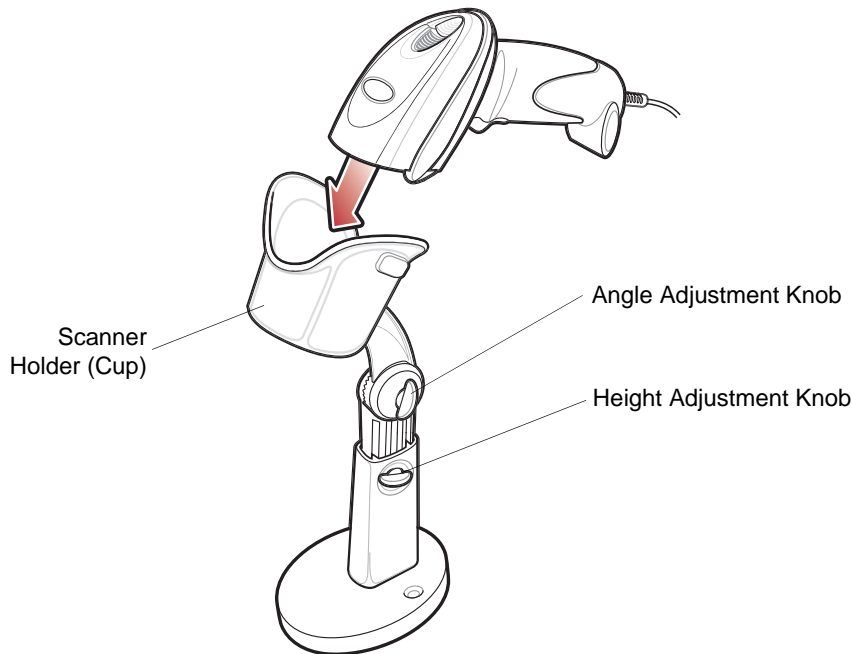

Figure 2-5 *Inserting the Digital Scanner in the Intellistand*
2. Insert the digital scanner in the Intellistand by placing the front of the digital scanner into the stand's "cup" (see Figure 2-5).